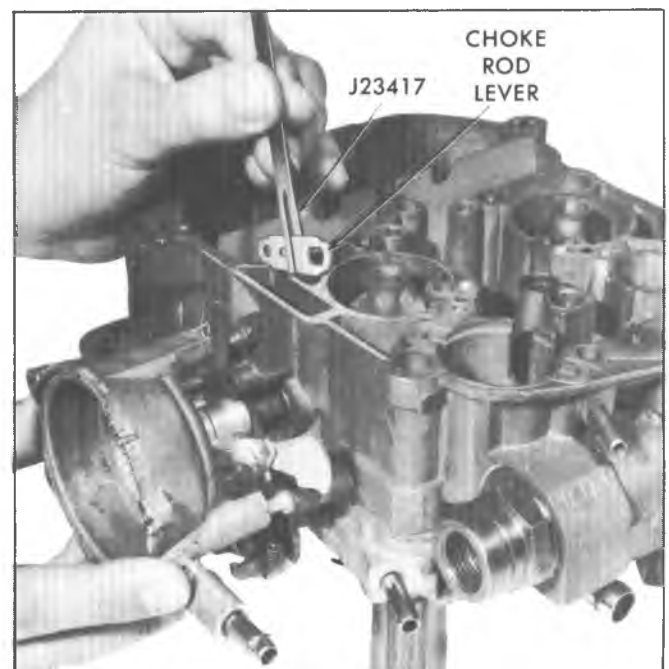

Fig. 20MQ—Installing Choke Rod Lever
6. Using Tool J-23417, install lower choke rod lever into cavity in float bowl. Install plastic tube seal into cavity on choke housing before assembling choke housing to bowl. Install choke housing to bowl sliding intermediate choke shaft into lower choke lever (Fig. 20MQ).